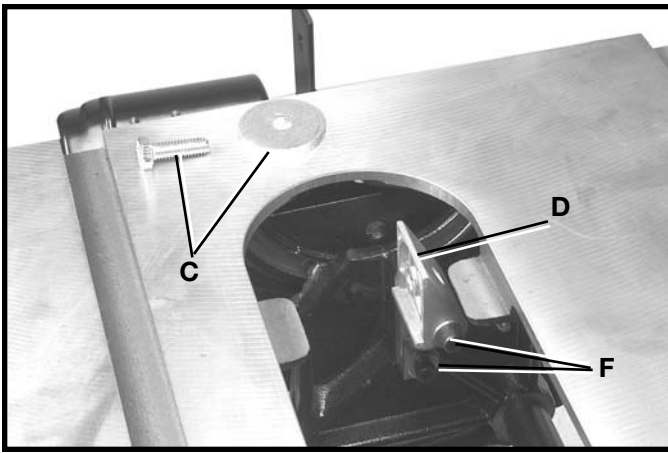

Fig. 29
5. When alignment is necessary, loosen the two screws (F) Fig. 29, align bracket (D) with the arbor flange and tighten screws (F).
6. Loosely assemble large washer and screw (C) Fig. 29, to the inside splitter bracket. This screw and washer was removed in **STEP 3**.